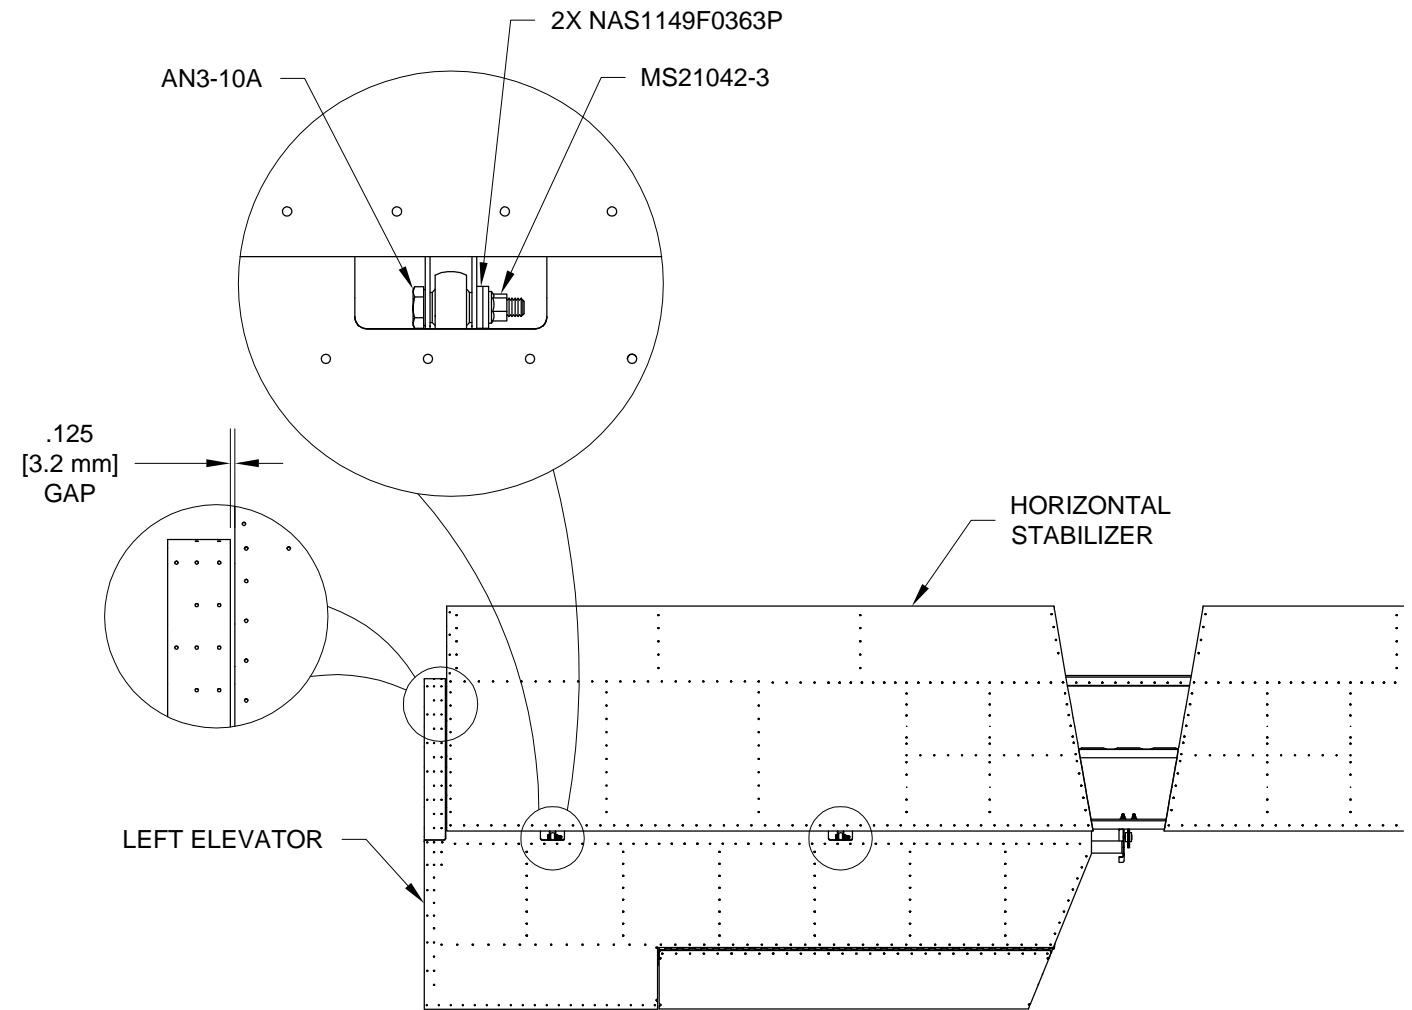

FIGURE 2: ELEVATOR INSTALLATION
Step 2: Attach the Left Elevator to the Horizontal Stabilizer as shown in Figure 2.
NOTE: If necessary, reduce the diameter of the E-Drill Bushing to ensure a snug fit. Mount the bushing in a drill press and hold a file against it as it spins until the proper diameter is achieved. See Figure 1 and Figure 2.
Step 2: Insert the Elevator Horn Spacer between the top of the WD-605-L-1 Elevator Horn and the HS-911 Inboard Hinge Bracket as shown in Figure 2.
Step 3: Insert the E-Drill Bushing into the VA-146A Flange Bearing as shown in Figure 2.